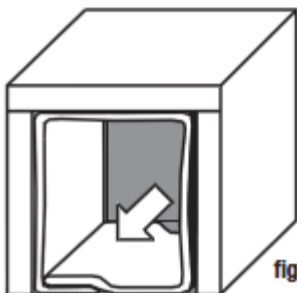

fig. 6
- Install the Thinsulate™ Acoustic Insulation (fig. 6)